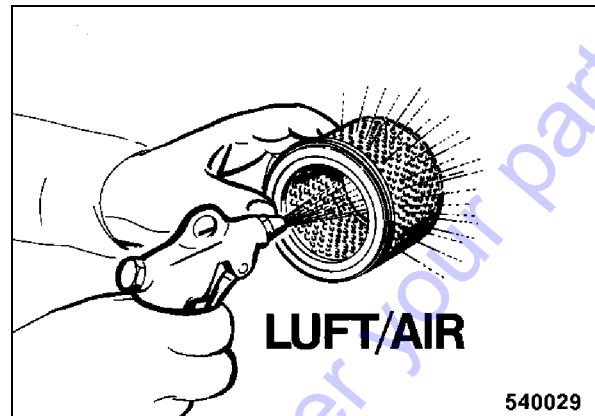

Fig. 79
- In case of dry fine dust blow out the filter cartridge carefully from inside to outside with dry, clean compressed air (Fig. 79) (max. 6 bar (87 psi)).